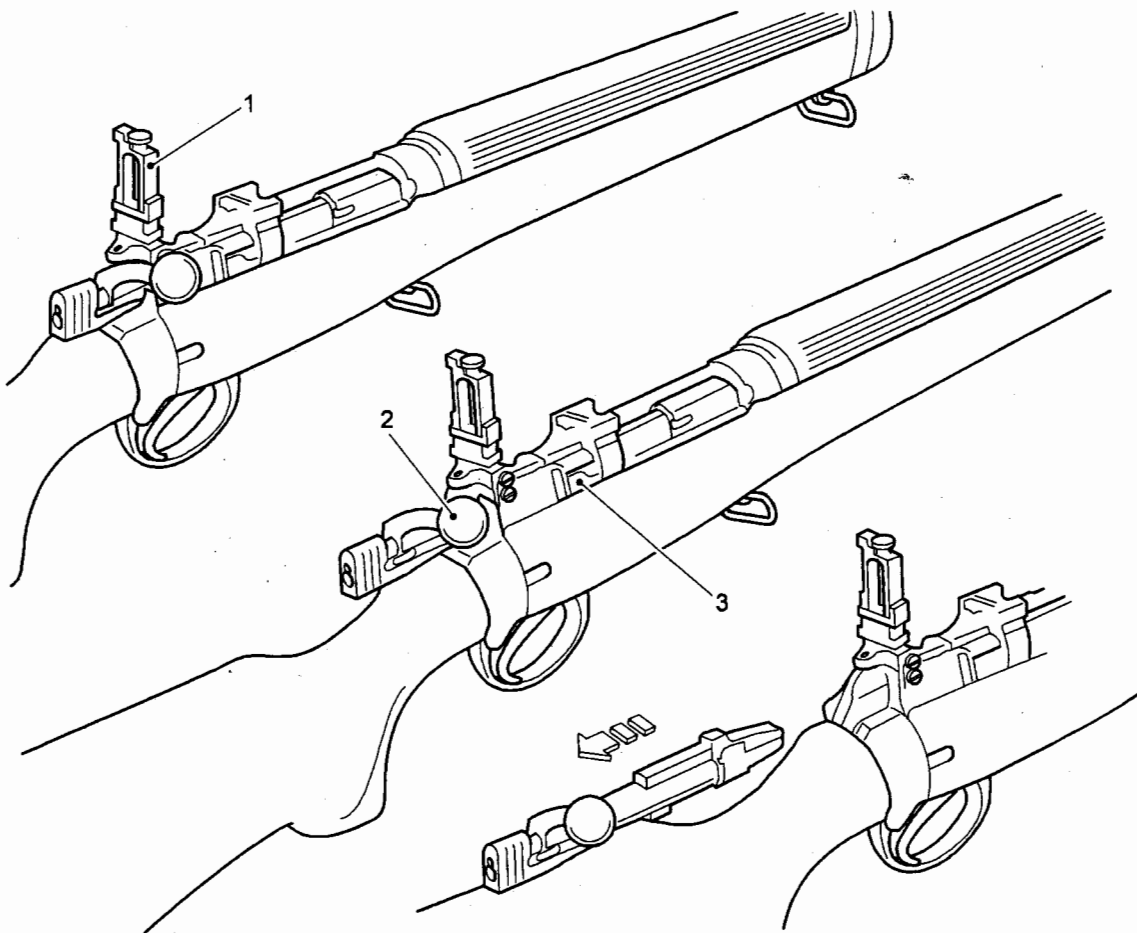

Fig 1 Remove the bolt
- 6.1 Raise the backsight (Fig 1 (1)).
- 7.3 Raise the backsight (Fig 1 (1)).